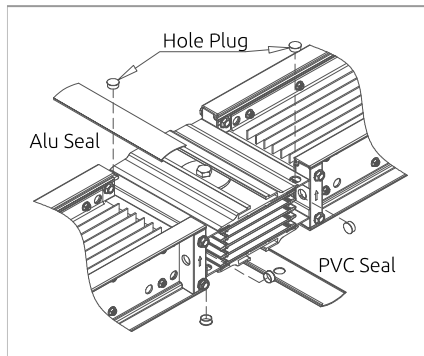

Figure 10.1
1. Joint two feeder together, and installed alu seal and pvc seal as shown in Figure 10.1